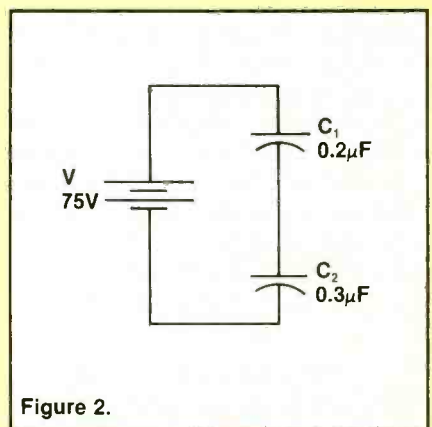

Figure 2.
5. Assuming the capacitors in the circuit of Figure 2 are fully charged, the voltage across C_1 should be _____ V.